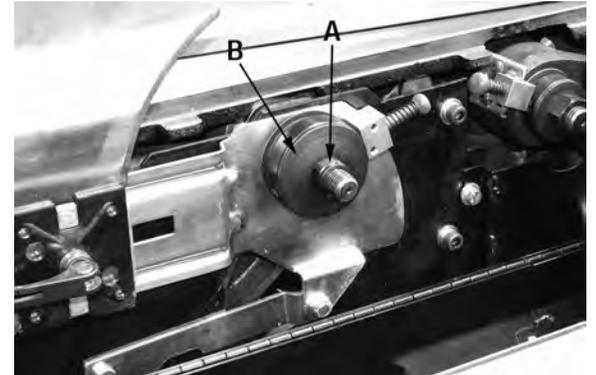

FIGURE 45
4. Remove the arbor nut (A) Fig.45 by turning it clockwise, then remove the blade flange (B).